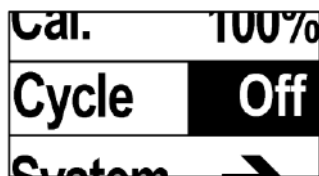

Fig. 45: Cycle display
2. Select "Cycle" menu (see Fig. 45)